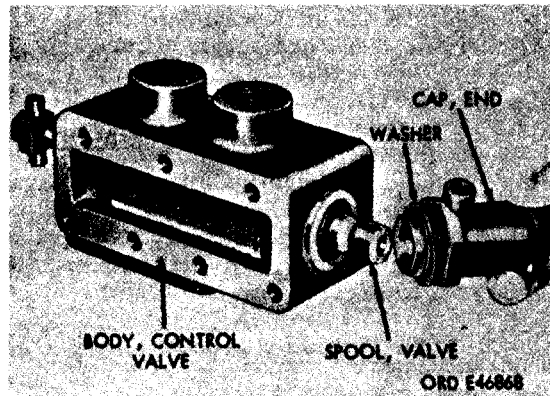
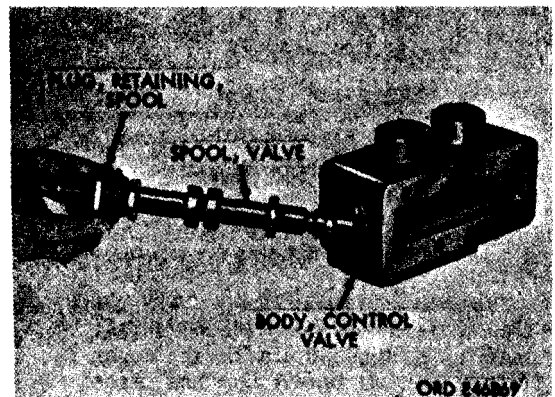

Figure 99. Remove control valve end cap from control valve body
Figure 100. Removing control valve spool
- (b) Remove the control valve end cap and washer (fig. 99) from control valve body.
(3) Remove the control valve spool.
- (a) Loosen spool retaining plug from control valve body. Remove valve spool from control valve body (fig. 100).
If a minor leak occurs around the spool, the spool retaining plug (fig. 100) can be removed and a new O-ring gasket installed.
- (2) Install control valve spool (fig. 100). Insert end opposite from trunnion of valve spool into bore of control valve body. Tighten spool retaining plug to body.
- (3) Install control valve end cap.
- (a) Position washer on end cap. Install end cap over end of valve spool (fig. 99) and tighten end cap securely to control valve body.